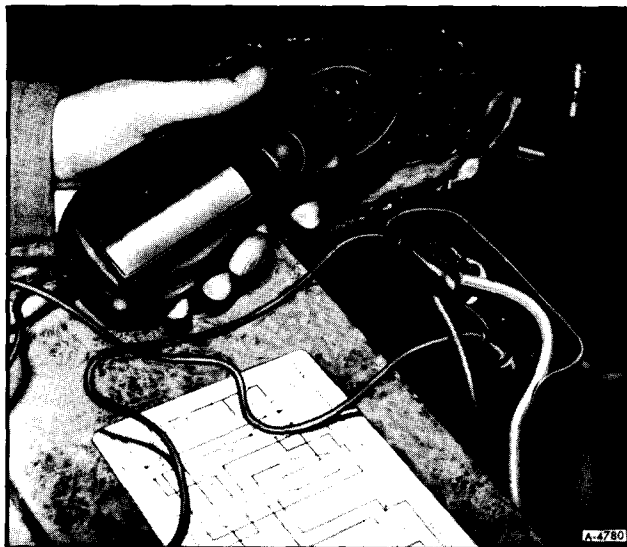

Figure 10—Voltage to Compressor Check
1. Compressor siezed up. 2. Voltage to compressor (figure 10).	1. Add an extra start capacitor to the compressor start capacitor for a temporary charge boost at start. Compressor may break loose. Remove at once if it starts. If allowed to run with extra capacitor attached, it will burn up. 2. Check for voltage at compressor with controls on. Connect negative test probe to the M or R common wire terminal, and positive lead to overload or O terminal. There should be a reading of 110 to 120 volts to the overload, and through the overload to the compressor O terminal.